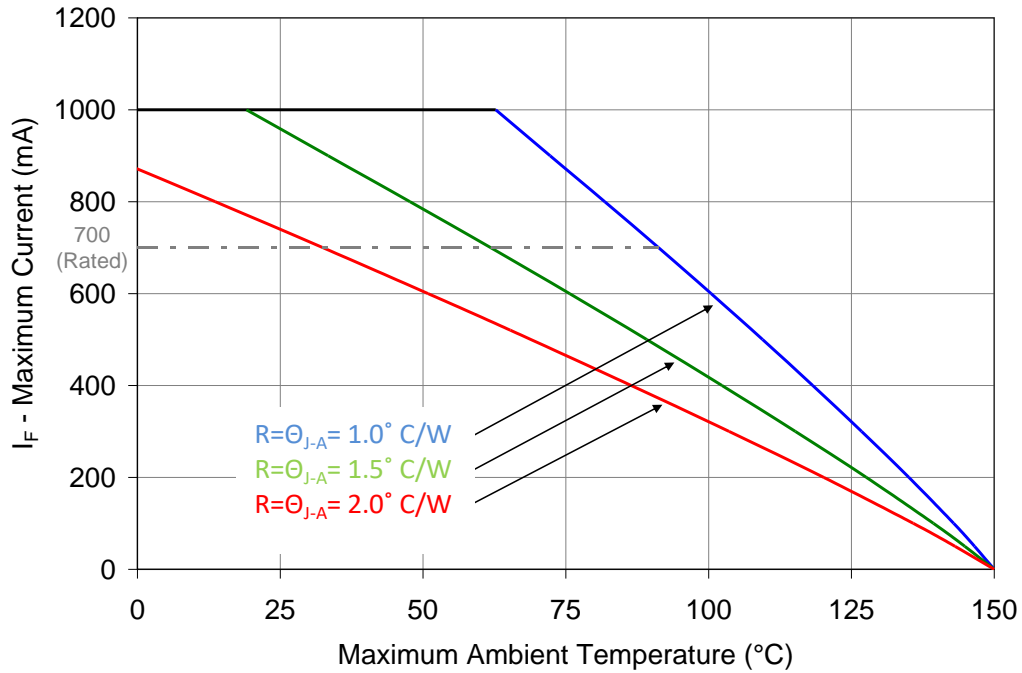

Figure 10: Maximum forward current vs. ambient temperature based on $T_{J(MAX)} = 150^{\circ}\text{C}$.
- Maximum DC forward current (per die) is determined by the overall thermal resistance and ambient temperature. Follow the curves in Figure 10 for current de-rating.